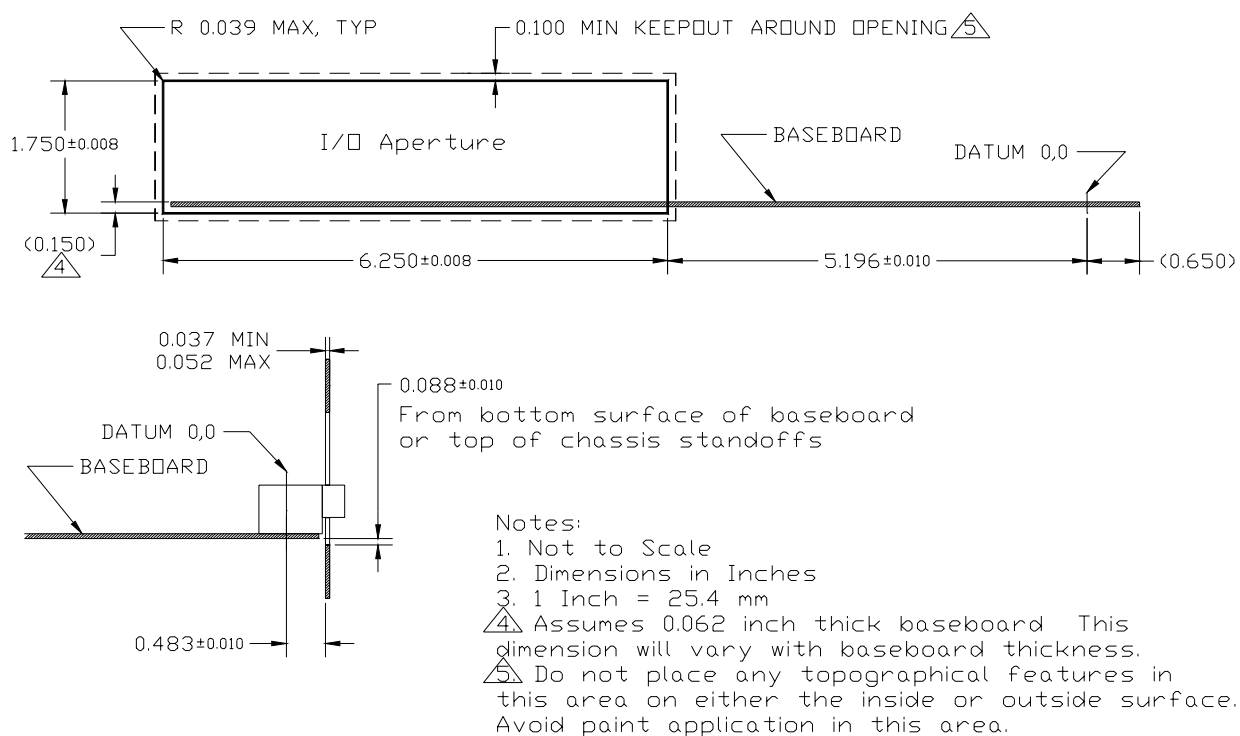
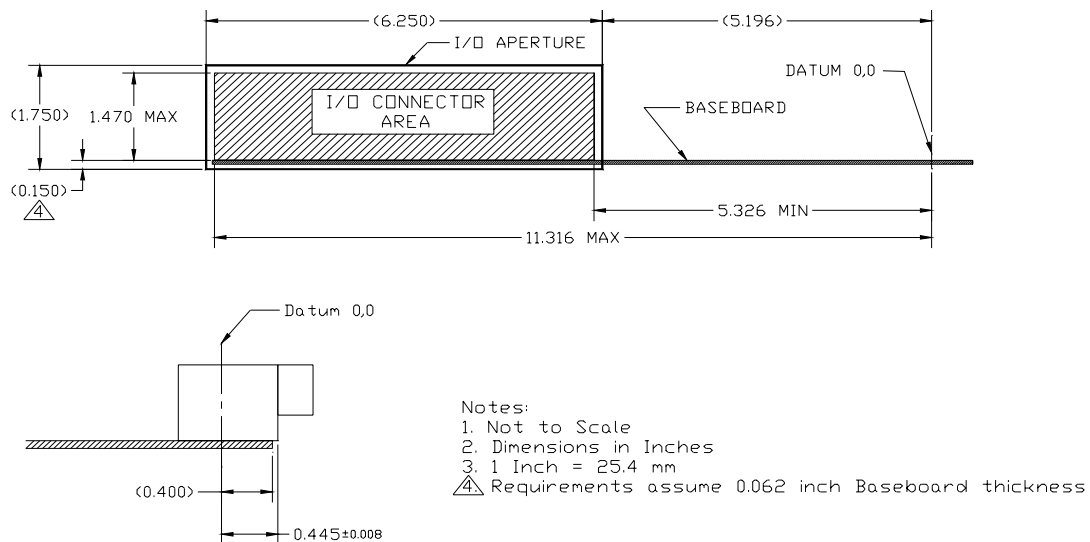

Figure 4. Chassis Back Panel I/O Aperture Requirements
Figure 5. Motherboard I/O Connector Zone Recommendation
As shown in Figure 4, the bottom of the back panel opening is located 0.150" (3.81mm) below the top of a typical, 0.062" (1.57 mm) thick motherboard. Also, a 0.1" (2.5 mm) keepout zone has been defined around the perimeter of the cutout area, on both the inside and outside surfaces of the chassis back panel. This required keepout zone provides a reserved space that can be used to clip a chassis-independent I/O shield to the chassis back panel. No slots, tabs, notches, or other topographical features should be placed within the keepout zone. If a feature violates the keepout zone, the chassis loses the opportunity to support an I/O shield that can be designed to fit all ATX chassis that meet the specifications listed below and detailed in Figures 4 and 5. For best EMI attenuation performance, paint should not be applied within the keepout area as it can prevent proper grounding of the I/O shield. Also, motherboard connector placement must be limited as shown in Figure 5 to allow enough clearance between the connectors and chassis opening for the I/O shield structure.
- Nominal cutout size = 6.25" (158.75mm) by 1.75" (44.45mm). See Figure 4 for tolerances.
- Distance from top of a typical 0.062" (1.57 mm) motherboard to bottom of I/O cutout hole = 0.150" (3.81mm) (Figure 4).
- Allowable thickness of a chassis back panel that the I/O shield can clip into is in the range 0.037" (0.94mm) to 0.052" (1.32mm) (Figure 4).
- The corners of the I/O aperture can be rounded to a maximum radius of .039" (0.99mm) (Figure 4). This allowable rounding of the corners helps case manufacturers extend the life of their hard tooling while still complying with the specification.
- The 0.1" (2.5mm) keepout zone around the I/O aperture area is required in an ATX 2.2-compliant chassis (Figure 4). This allows ATX 2.2-compliant I/O shields to fit into ATX 1.1 or 2.2-compliant cases. The keepout area is needed for the shield attachment points. Avoid paint application in this area.
- The face of all I/O connectors should be placed 0.445" (11.30mm) from the reference datum and remain within the zone defined in Figure 5.
Figure 5 specifies the I/O connector zone. Compliance with this recommendation is necessary to ensure enough clearance between the chassis aperture and motherboard connectors for the I/O shield structure. This recommendation may be waived if the shield provided with the motherboard requires less than the recommended clearance. To retain maximum flexibility, the exact positioning of connectors within the I/O connector zone is left to the discretion of the motherboard designer.